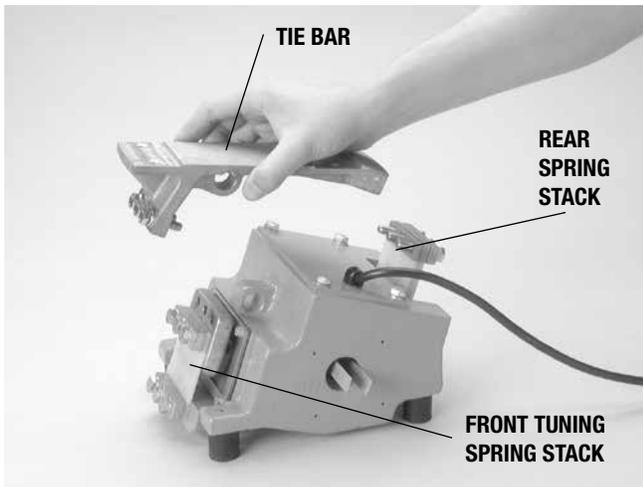

FIGURE 6
- Remove, in order, the bolts securing the upper end of the rear tuning spring stack to the tiebar. Lift the tray-tiebar assembly away from the body housing (see Figure 6).